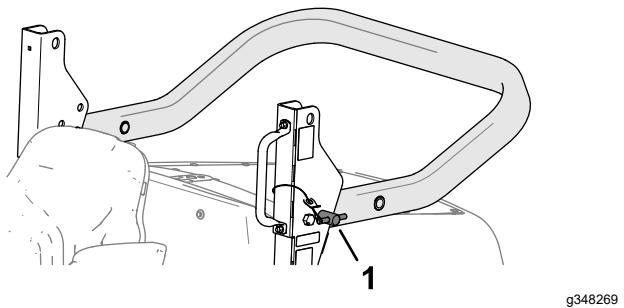

Figure 31
2. Remove the roll-bar pins to the pivot brackets (Figure 31).